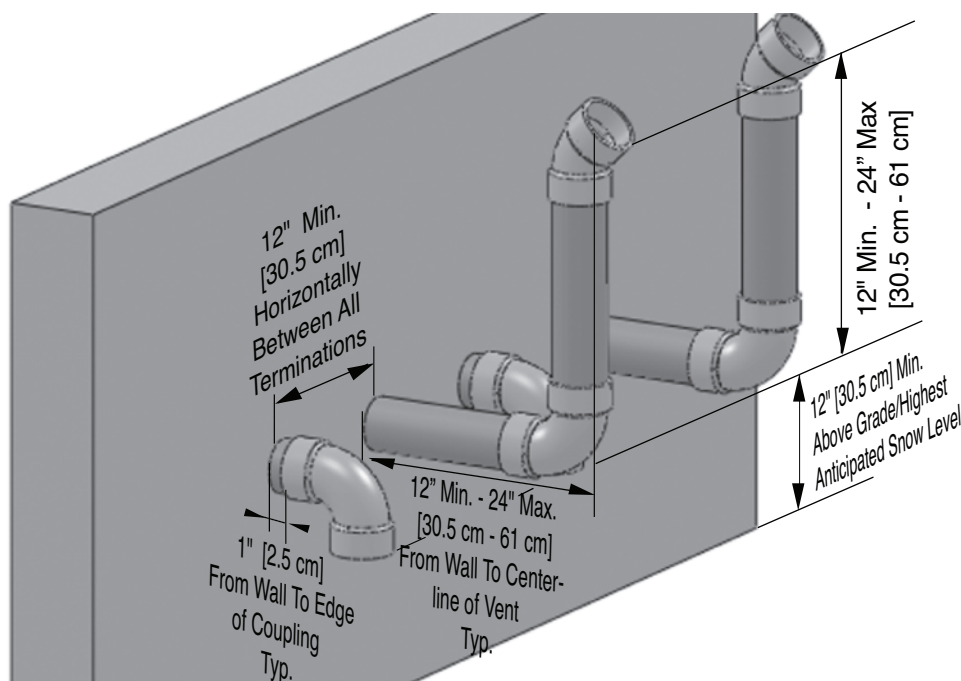

Fig. 15: Direct Vent - Horizontal Termination of Multiple Appliances
1. On installations of multiple CHALLENGER appliances, terminate each vent and combustion air pipe as shown in Fig. 15.
2. The wall penetration of the vent and combustion air pipe should be such that the combustion air inlet is a minimum 12" [30.5 cm] from the adjacent vent pipe of the other appliance for installations in the U.S. as shown in Fig. 15. For installations in Canada, provide clearances as required by CAN/CSA B149.1.